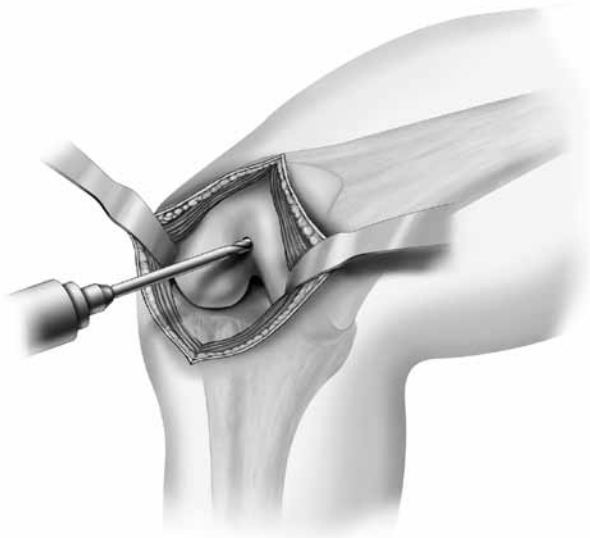

Figure 4
The **Intra-medullary (IM) Pilot Drill** should be used to drill a hole in the distal femur coaxially with the femoral endosteal canal (*Figure 4*). The entry point for this drill is located in the intercondylar groove 5-10mm anterior to the intercondylar notch. This entry point may be more accurately located by one of these two methods: